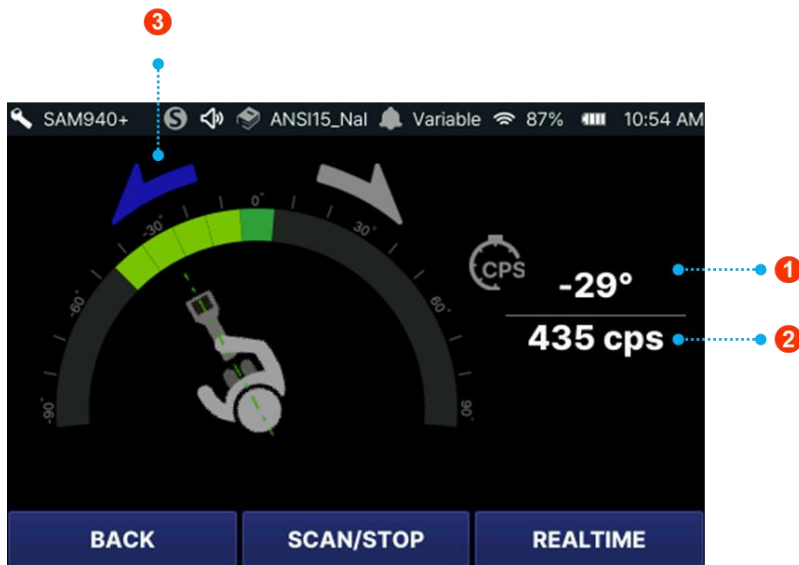

Figure 5.8.2. Scan progress status and count rate
The current angle ①, count rate ② and rotation direction at the given direction will be displayed as shown in figure 5.8.2. To finish the scan, select SCAN STOP.